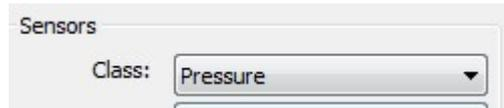

Figure 5.56 Type Selection
1. Select "Detailed Design"->"Sensor"-> drop-down box corresponding to"Type", as shown in Figure 5.56